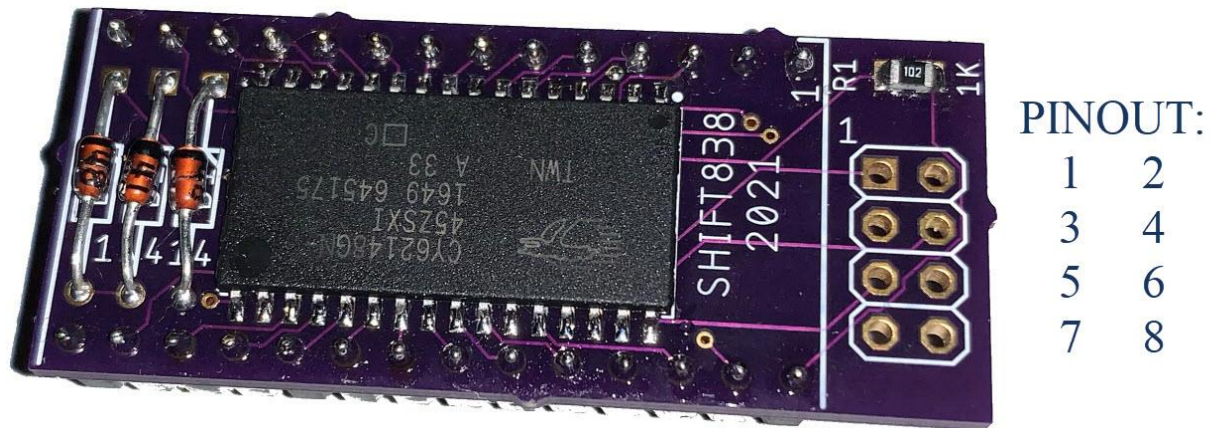

Figure 1
- a. Take the 10" BLUE wire and solder it to PIN #1 of the 838-384KM module. See Figure 1 for pinout configuration.